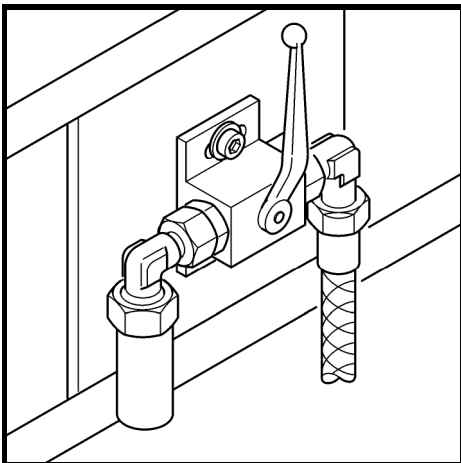

Fig. 21
Before draining the oil or before adding oil via the service plate coupling or a plug on a filter cover, always open the tank pressure release valve (Fig. 21) located at the back of the cabin.
- After refilling, close the tank pressure release valve (Fig. 21) to repressurize the hydraulic tank.